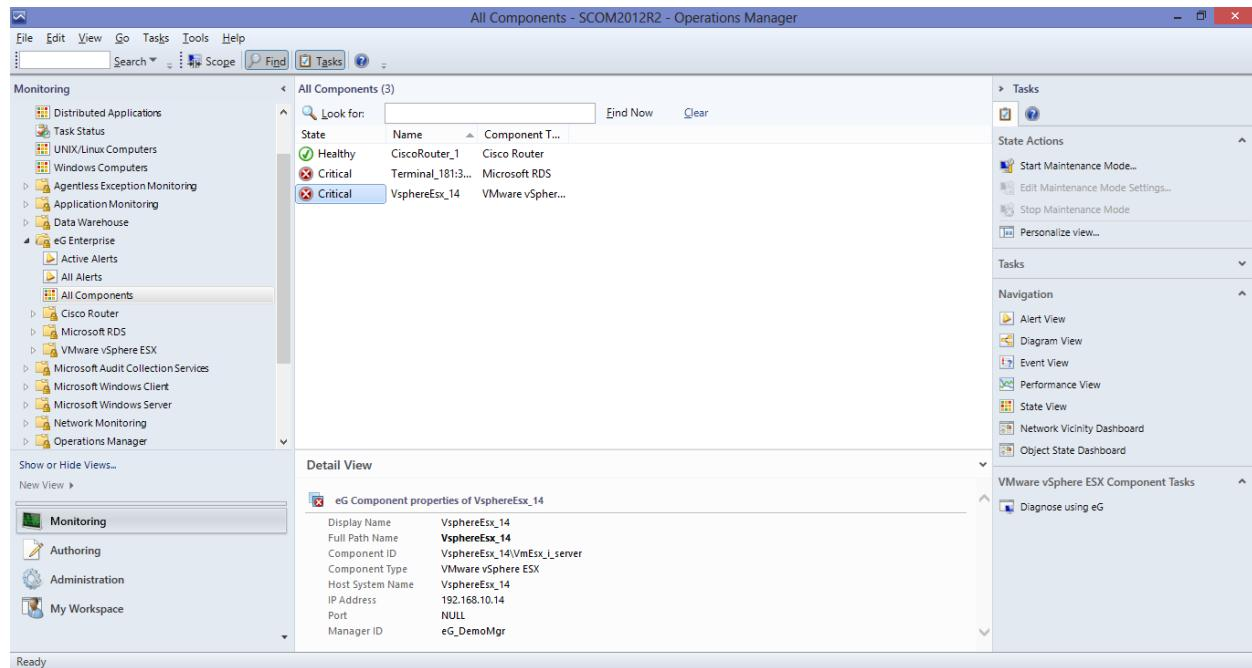

Figure 3.8: The All Components sub-node
1. Click on the **All Components** sub-node under the **eG Enterprise** node in the tree-structure in the left panel of the SCOM console. The right panel will then display all the eG-managed components and their current state (see Figure 3.8).
3. From Figure 3.8, it is evident that while the Terminal and vSphere servers in our example are in a **Critical** state currently, the Cisco router is in a healthy state.